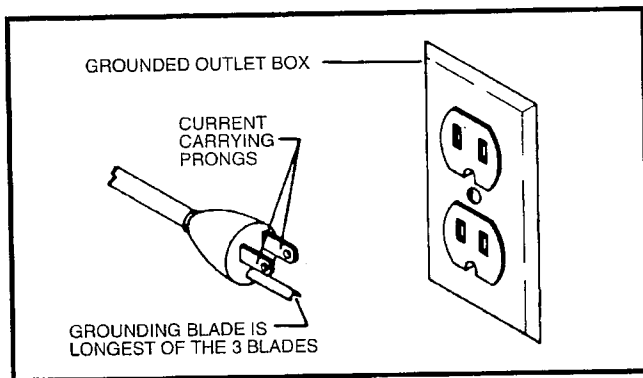

Fig. 17
**CAUTION: This tool must be grounded while in use, to protect the operator from electric shock.** The motor is shipped wired for 115 Volt, Single Phase and is equipped with an approved 3-conductor cord and 3-prong grounding type plug to fit the proper grounding type receptacle, as shown in Fig. 17. The green conductor in the cord is the grounding wire.